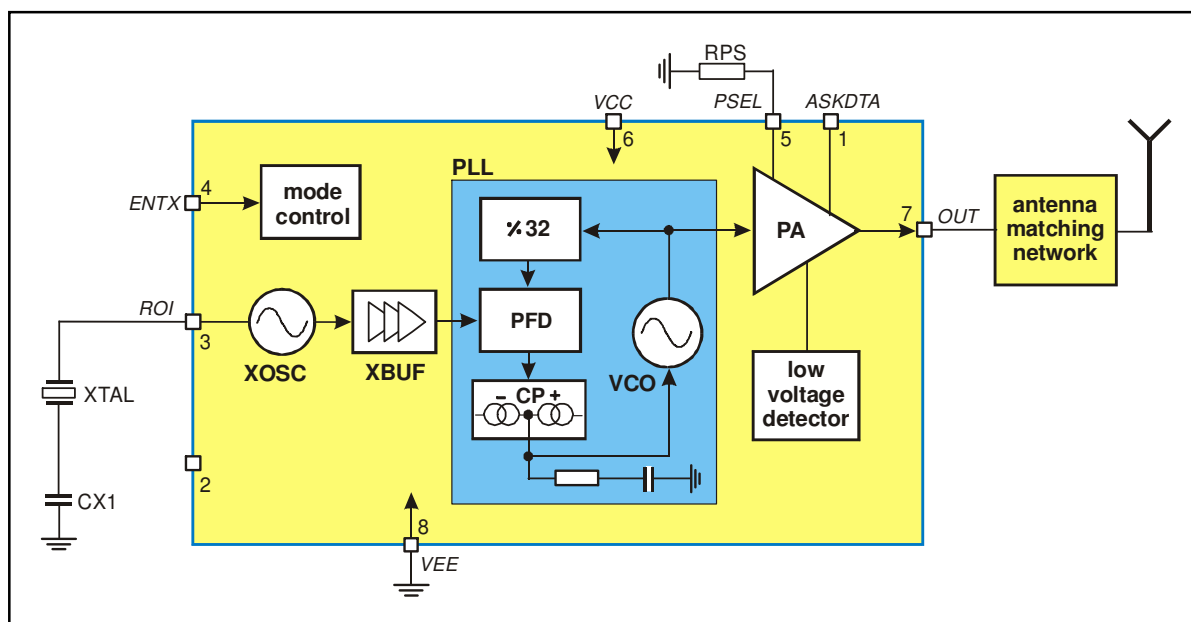

Fig. 1: Block diagram with external components
As depicted in Fig.1, the TH72012 transmitter consists of a fully integrated voltage-controlled oscillator (VCO), a divide-by-32 divider (div32), a phase-frequency detector (PFD) and a charge pump (CP). An internal loop filter determines the dynamic behavior of the PLL and suppresses reference spurious signals. A Colpitts crystal oscillator (XOSC) is used as the reference oscillator of a phase-locked loop (PLL) synthesizer. The VCO's output signal feeds the power amplifier (PA). The RF signal power  $P_{out}$  can be adjusted in four steps from  $P_{out} = -12$  dBm to  $+10$  dBm, either by changing the value of resistor RPS or by varying the voltage  $V_{PS}$  at pin PSEL. The open-collector output (OUT) can be used either to directly drive a loop antenna or to be matched to a 50Ohm load. Bandgap biasing ensures stable operation of the IC at a power supply range of 1.95 V to 5.5 V.